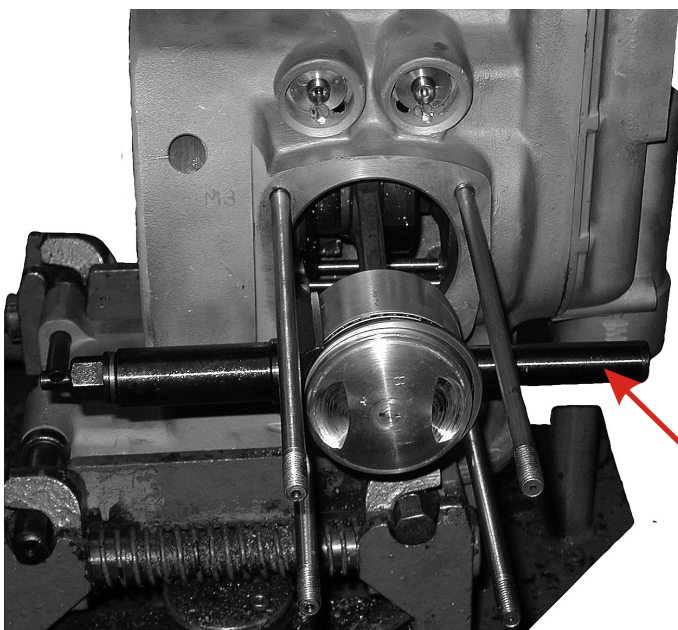

Fig. 3
- Fit the remover 345-439-3 and press out the piston pin (Fig.3);